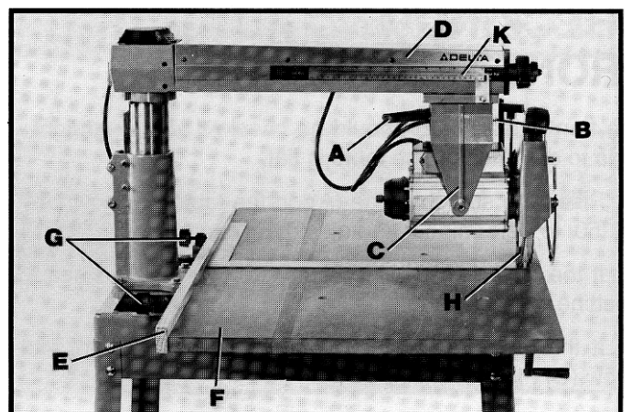

Fig. 54
2. Loosen yoke clamp lever (A) Fig. 54. Release yoke index by pressing up or down on yoke clamp lever (B), and rotate cuttinghead (C) to the out-rip position as shown. Tighten yoke clamp lever (A).
3. Lower track arm (D) Fig. 54, until blade just clears the table and slide cuttinghead (C) to front end of track arm as shown.
4. Assemble fence (E) Fig. 54, between rear table board (F) and table board clamps (G).
5. Measure 24 inches from fence (E) Fig. 54, and adjust cuttinghead (C) so the edge of saw blade teeth is 24 inches from the fence (E). Tighten cuttinghead clamp knob. **NOTE:** Push inner leaf on blade guard (H) Fig. 54, out of the way when measuring the distance from fence to blade.
6. Set out-rip pointer (K) Fig. 54, at the 24 inch mark on the out-rip scale.